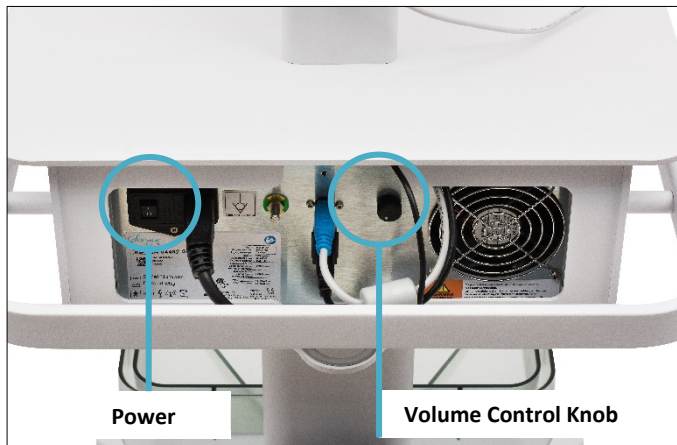

Figure 3-4. Back panel of RF Generator showing the Power Switch and Volume Control Knob.
Turn on the RF Generator using the power switch on the back, see Figure 3-4.
- Adjust the volume if needed using the Volume Control Knob, see Figure 3-4.